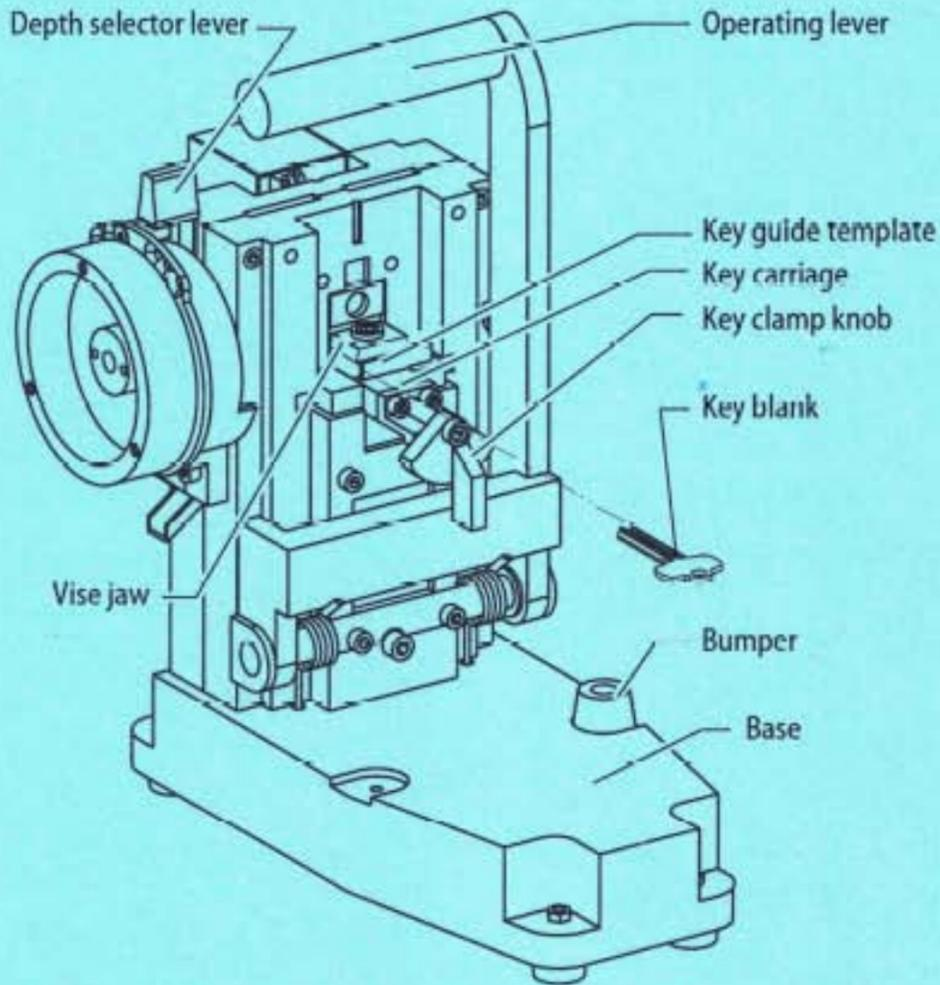

Figure 1 Right-handed key combinator with various parts labeled
- 1 With the machine bolted down or free standing, you can start cutting keys. See Figure 1 to locate key combinator parts.